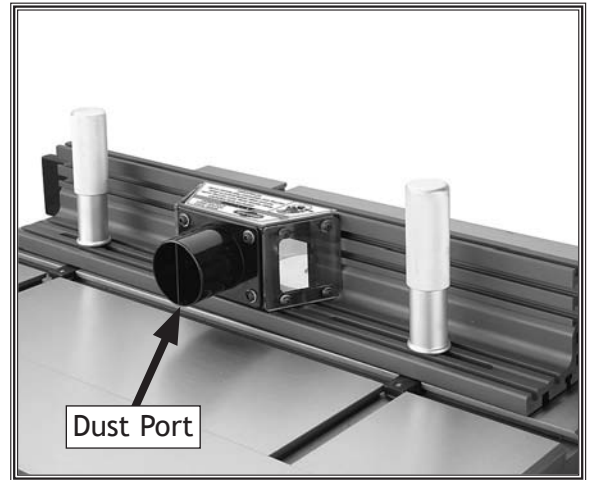

Figure 14. Dust port installed.
11. Attach the dust port to the back of the fence assembly with the (4) M6-1 x 10 cap screws and (4) 6mm flat washers, as shown in Figure 14.